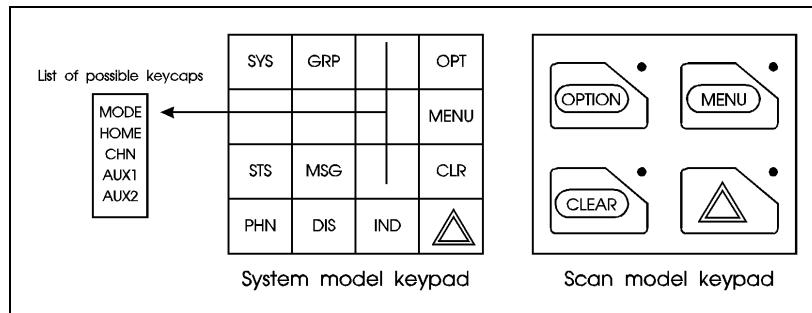

Figure 7-3: Standard M7100^{IP} Keycaps Configuration
The Standard keycap package for the System radio includes five (5) labeled keycaps (MODE, HOME, CHN, AUX1 and AUX2) and six (6) blank keycaps, which can be placed on any of the five key locations (numbers 3-6 and 9) shown in Figure 7-3. The keycap represents the primary function programmed for that key location. See Section 7.7.3 for a description of the primary function associated with these five (5) keycaps.